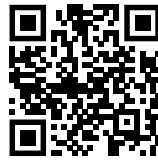

Fig. 140
- ▶ Open Liebherr SmartMonitoring Dashboard. (see Fig. 140)